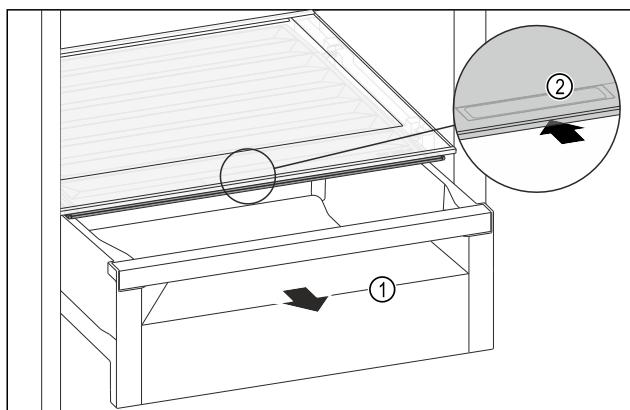

Fig. 145
- ▶ Pull out the drawer Fig. 145 (1).
- ▶ Grip the handle recess Fig. 145 (2) on the lid while pulling the lid backward at the same time.